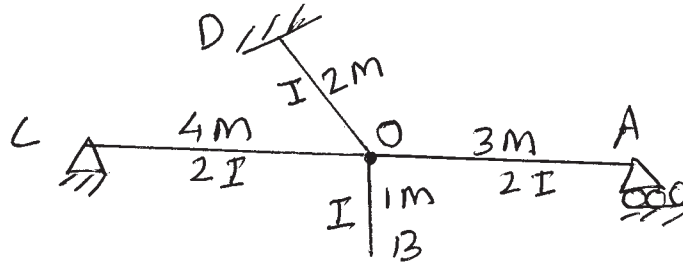

Fig. No. 3
- c) Calculate the distribution factors for member OA, OB, OC, OD for the joint 'O' as shown in Fig. No. 3.